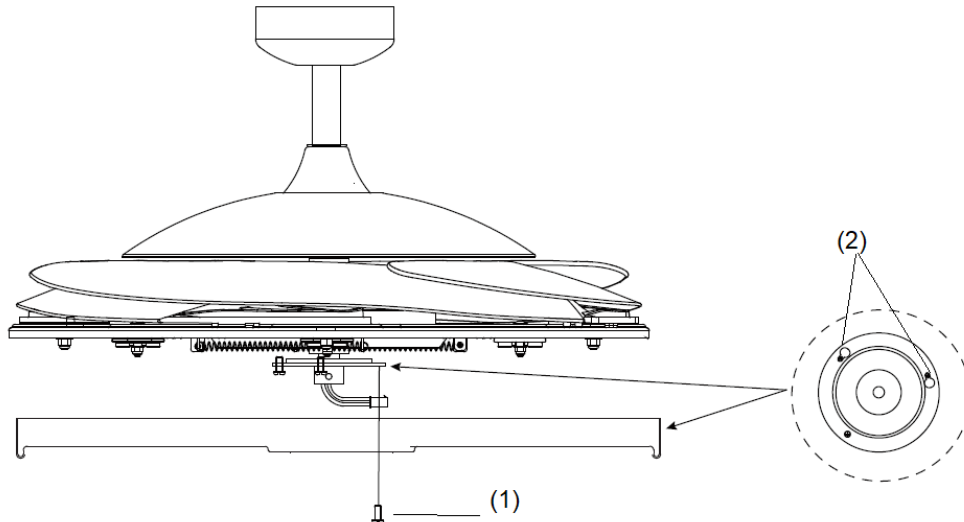

Fig. 6
### LIGHT KIT INSTALLATION (Fig. 6 & 7)
1. Loosen the screw (1) from the fan bracket. Align the two slot screws with the keyhole slots (2) of the light kit bracket. (Fig. 6)
2. Turn the light kit counterclockwise until the slot screws are firmly at the end of the slots (2).
3. Secure screw (1) to the lamp shade bracket. Tighten all three screws. Do not over-tighten.